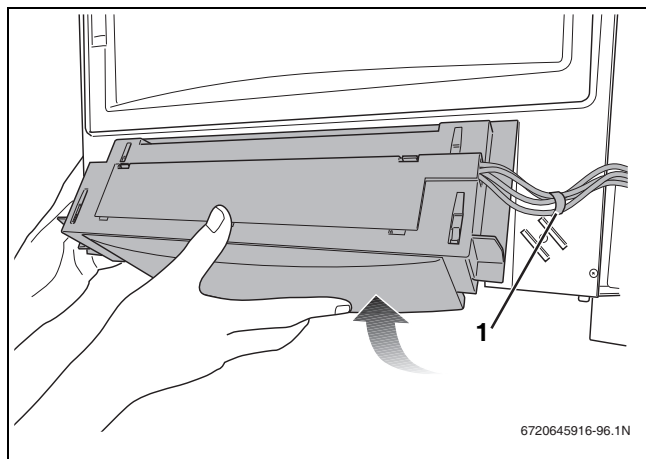

Fig. 98 Removing the control panel
- Remove the control panel (→ fig. 98).